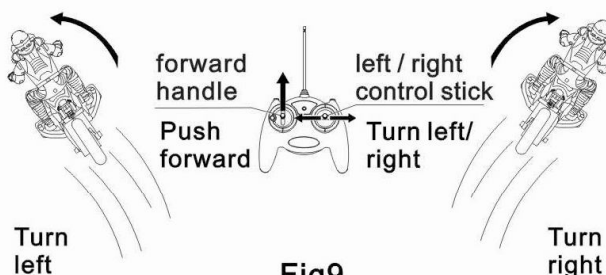

Fig9
- 4.When the body in moving, push the left / right control stick, the body will be to the left / right. (Figure 9)